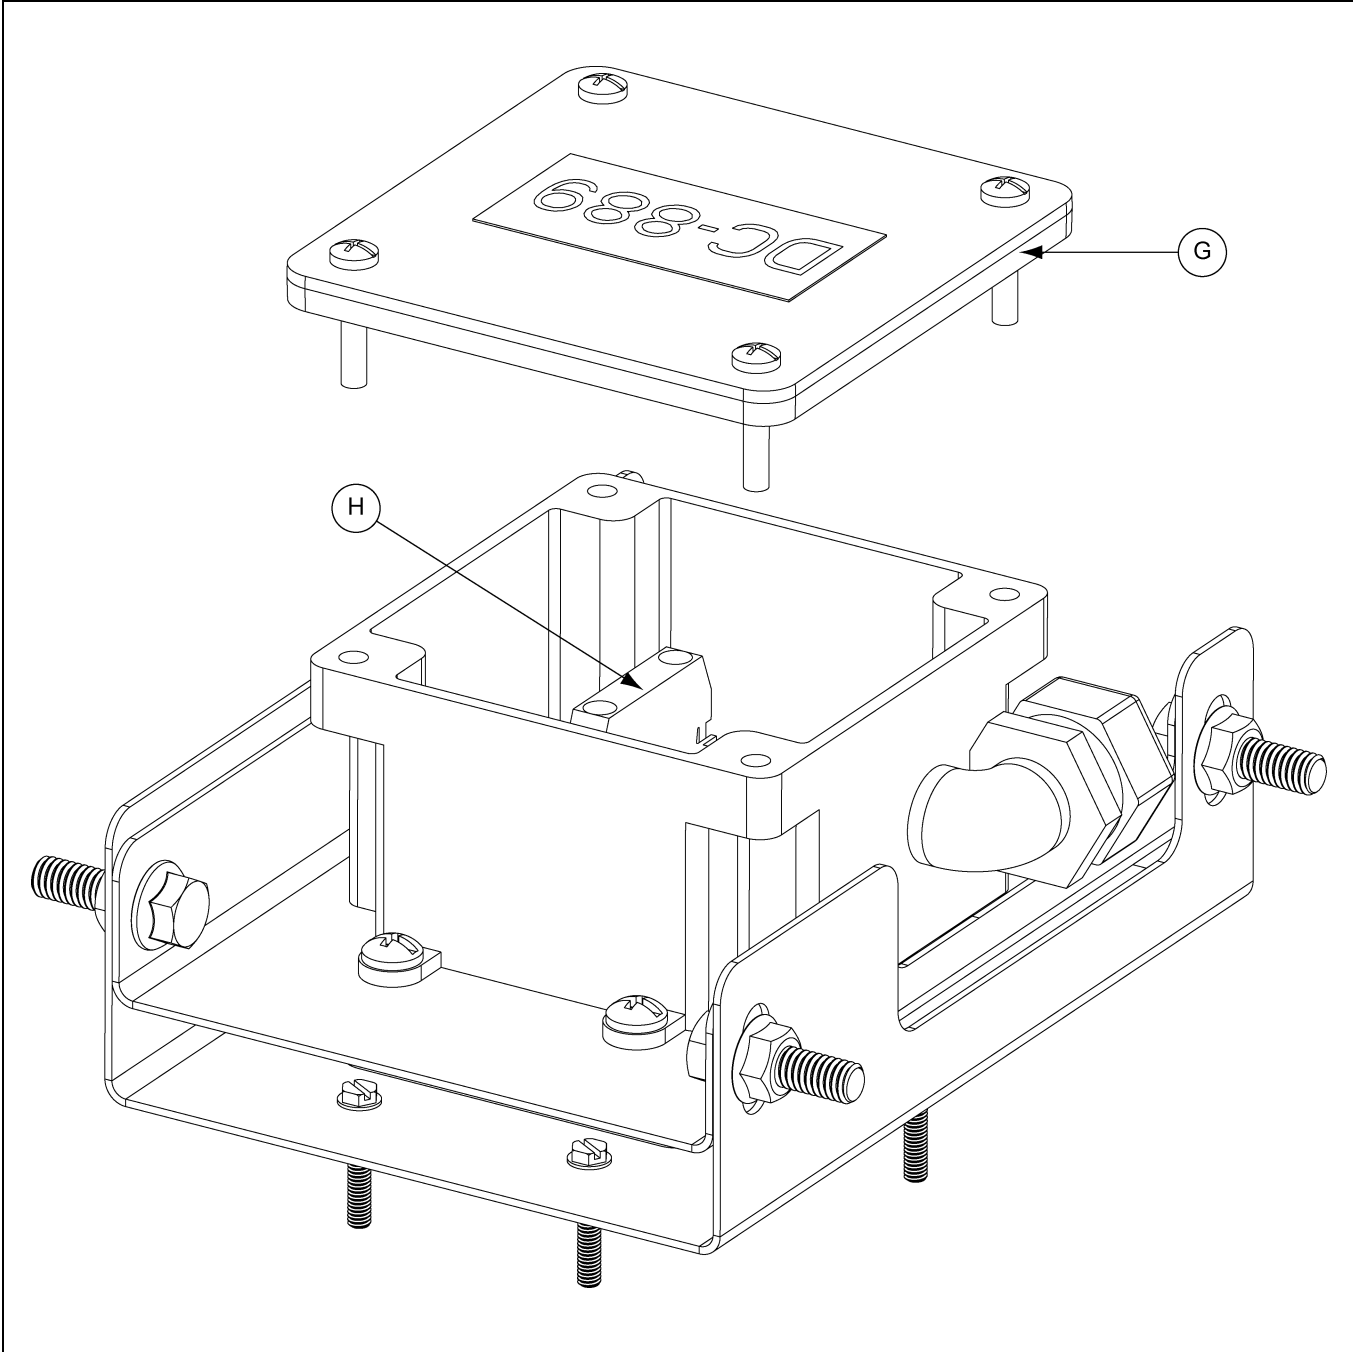

Figure 3C
5. Remove the box lid (G) and connect the wires to the N/C contact (H) inside the box. (See Figure 3C.)